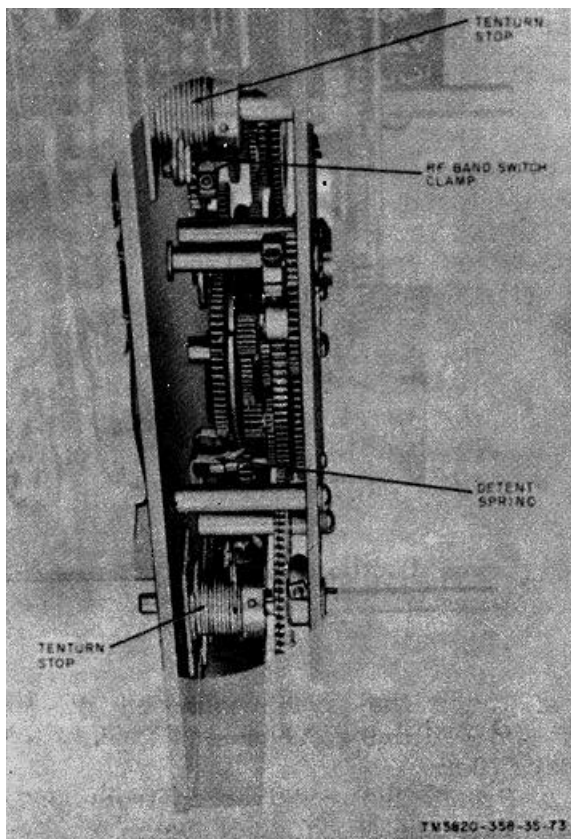

Figure 69. Location of rf band switch shaft clamp, detent spring, and ten-turn stops.
a. *Ten-Turn Stops.* Check the 10-turn stops (fig. 69) by rotating the MEGACYCLE CHANGE and KILOCYCLE CHANGE shafts fully counterclockwise. The first two digits on the frequency indicator should indicate halfway between 99 and 00 mc (off the detent position). The next three digits should indicate between -963 and -972 kc.
- (4) Connect the TS-352(*)/U between pin 6 of XV207 and pin D of J208. The indication should be approximately 56,000 ohms.
- (5) Turn the MEGACYCLE CHANGE control to 08. The TS-352(*)/U should indicate an infinite reading.
- (6) If the indications are *not* as in (4) and (5) above, continue with procedures (7), (8), and (9).
- (7) Disconnect the TS-352(*)/U and reinsert V207.
- (8) Remove the front panel (para 58) and the rf subchassis (para 59).
- (9) Loosen the rf band switch clamp (fig. 69). Turn the band switch shaft until the rotors are centered on the contacts which provide the indications required in procedures (4) and (5) above. Tighten the rf band switch clamp.